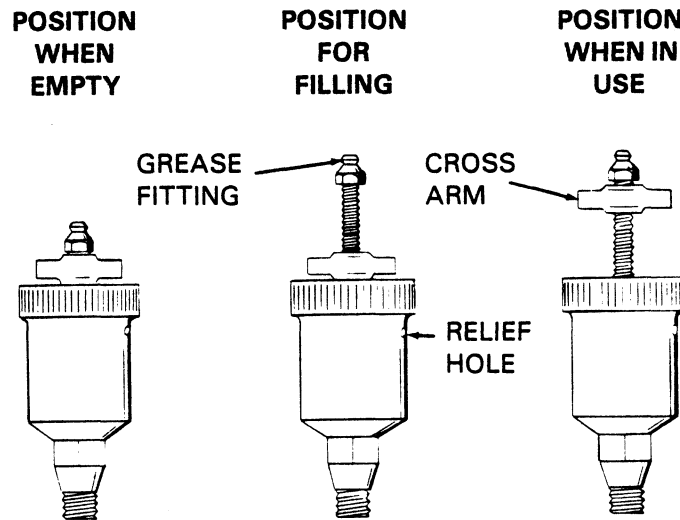

Figure 5. Automatic Lubricating Grease Cup
Before removing the seal assembly, turn the cross arm on the seal grease cup (6) clockwise until it rests against the cover (see figure 5), to prevent the grease in the cup from escaping after the seal is removed, and remove the seal drain plug (20) to drain the seal cavity. Clean and reinstall the seal drain plug.
Before starting the pump, fill the seal grease cup through the grease fitting with a good grade of No. 2 pressure gun grease until grease escapes from the relief hole. Turn the grease cup arm counterclockwise until it is at the top of the stem; this will release the spring to apply grease to the seal (see figure 5).